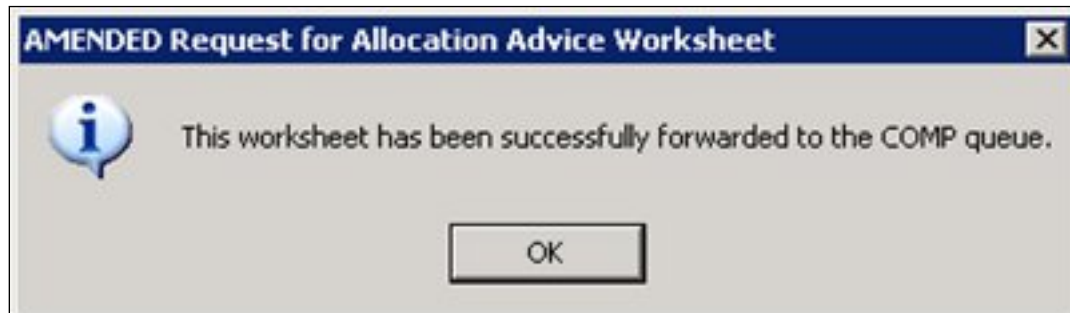

Figure 10-35: Forward RAAWS to COMP Dialog Box
25. The Worksheet Forwarded to the COMP Queue message is displayed (Figure 10-35).